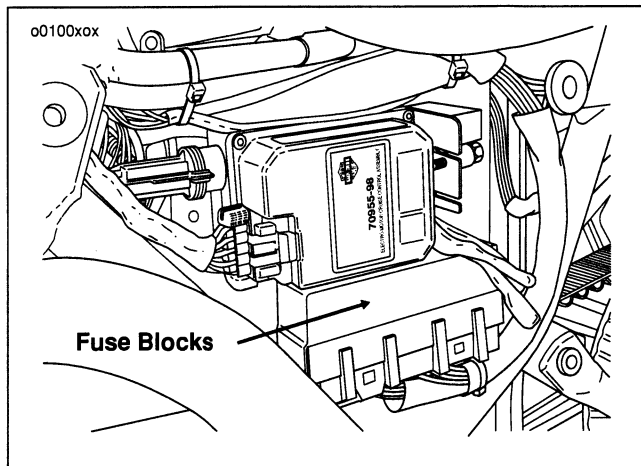

Figure 48. Left Side Cover Removed
6. See Figure 48. Gently pull side cover from frame down-tubes (no tools required). The fuses are located in the fuse block.